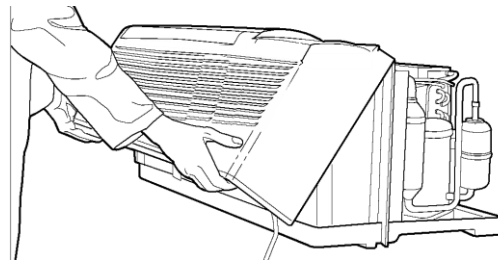

Fig. 5 — Removing Front Panel
1. Remove front panel from unit by grasping the panel near the bottom of both sides, then pulling the panel forward and upward to release latches. See Fig. 5.